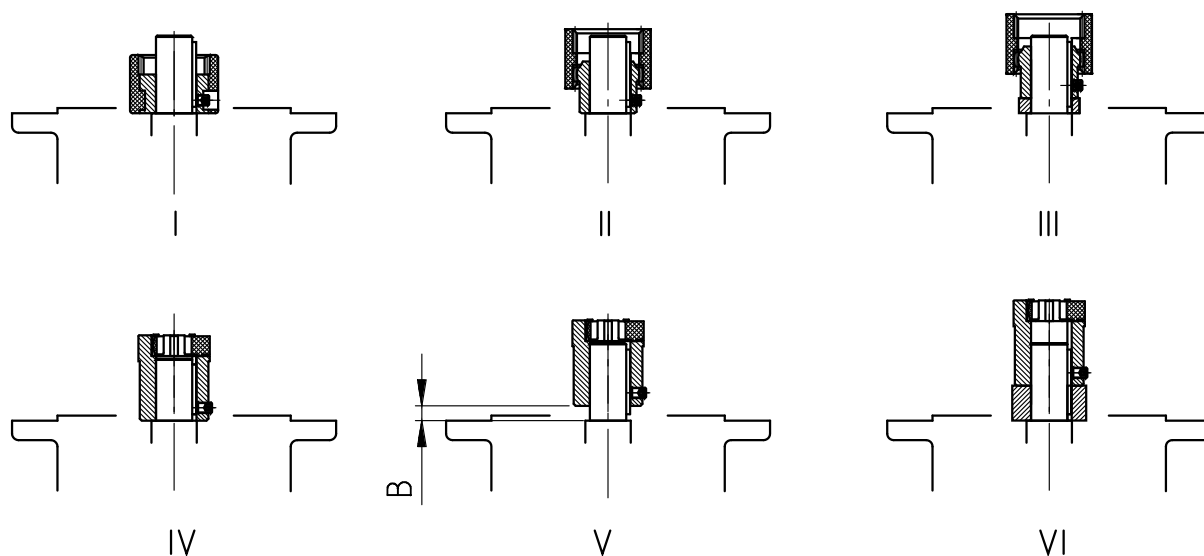

Figure 15: Fitting the coupling onto the motor shaft - various types of coupling
3. Position the half-coupling onto the motor shaft so that the motor parallel key engages into the groove of the half-coupling. Tighten the half-coupling in accordance with the motor manufacturer's instructions. With standard helical gear units, observe dimension B between the half-coupling and the collar (see "Figure 15"). Adjust the coupling in accordance with the specifications indicated on the adhesive plate for certain **NEMA adapters**.
8. Attach the motor to the adapter. Also attach the enclosed ring gear or the enclosed gear sleeve (see **Figure 15: Fitting the coupling onto the motor shaft - various types of coupling**). For the AN360TC and AN400TC adapters, attach the adapter flange to the motor first, and screw the motor onto the adapter.